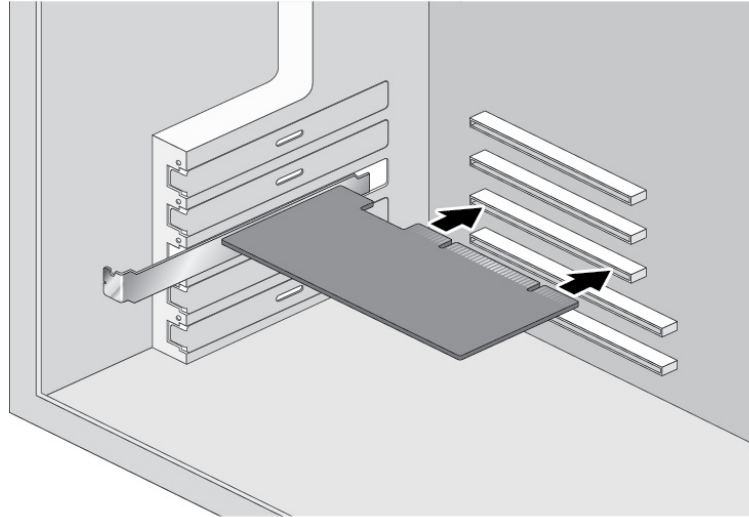

Figure 8. Inserting the Adapter with a High-profile Bracket
5. Applying even pressure at both corners of the card, push the adapter card until it is firmly seated in the appropriate PCIe slot. Refer to Figure 8. Make sure the card is securely seated.